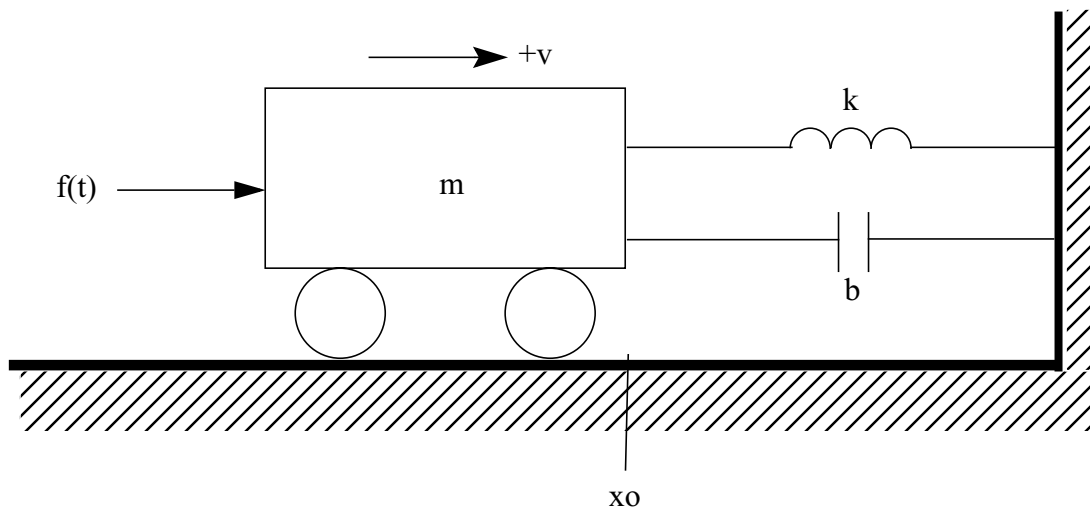

Figure 10. Mechanical System
**THE PROBLEM:** This experiment is designed to introduce the student to the analog computer through the simulation of a mechanical system that can be represented by a second-order, linear, differential equation. The system is shown in Figure 10 below. The system parameters are as follows:
- P-4. Draw an analog schematic that will simulate the mechanical system above in terms of displacement  $x(t)$  but in which the second derivative of  $x(t)$  does not appear as an output of an amplifier (see Figure 10). Provide inputs for initial conditions and outputs for both velocity and displacement.